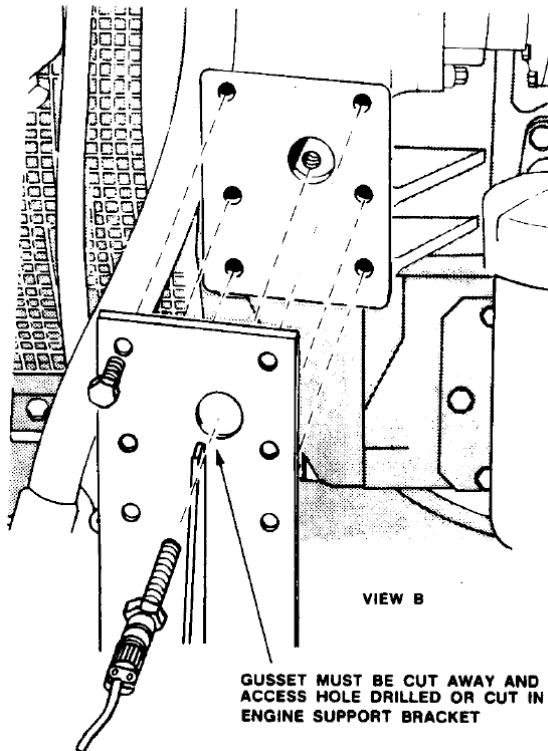
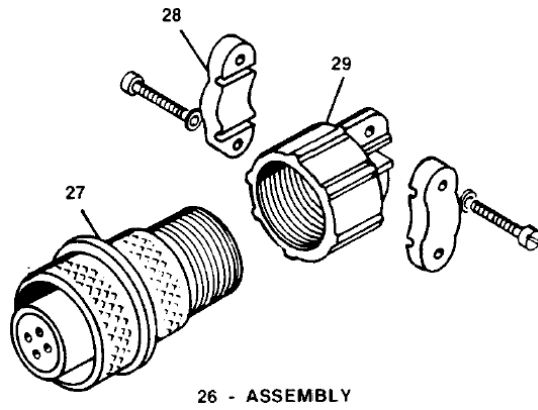
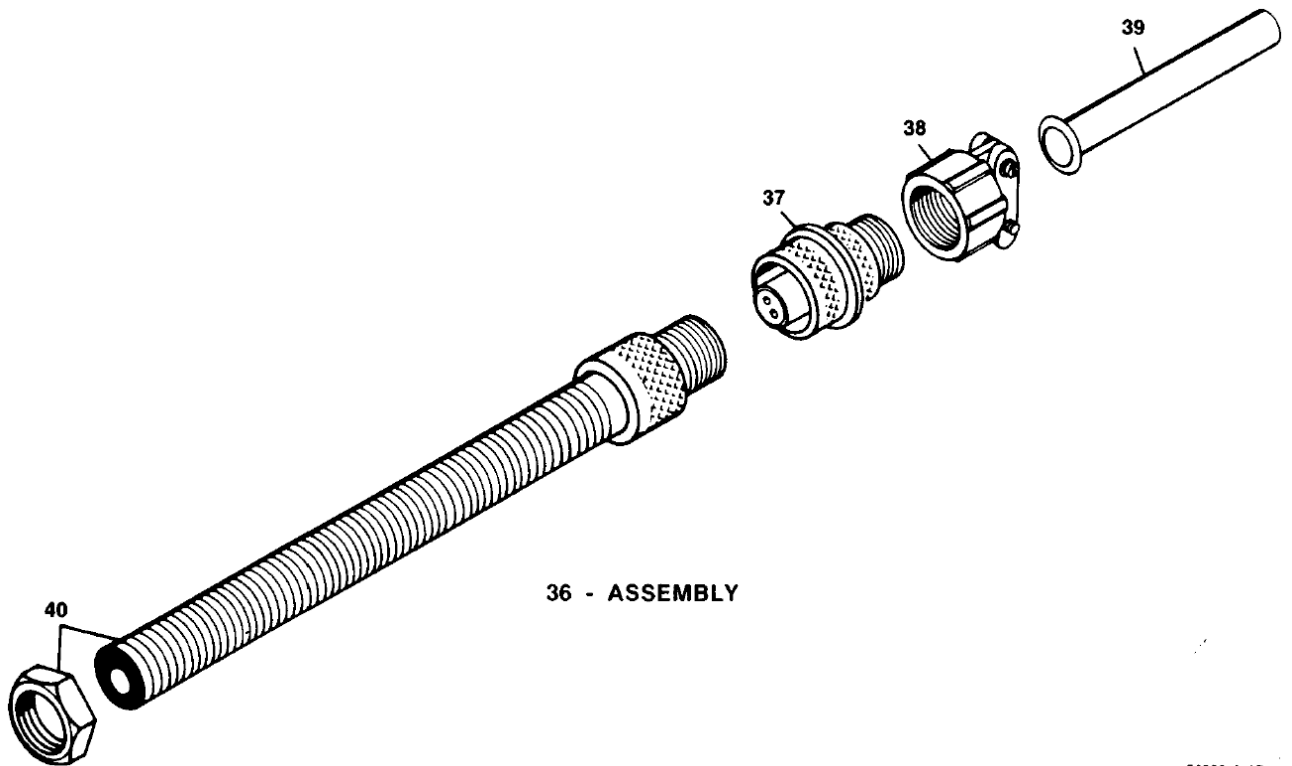

Figure 3. Magnetic Pickup Installation
Figure 4. EG-3P Connector Assembly
Figure 5. Magnetic Pickup Assembly
1. Install the magnetic pickup in the flat surface used for the engine support bracket on the right side of engine. Drill an access hole in the engine support bracket and flywheel housing for the magnetic pickup. See Figure 3, Views A and B for location and dimensions of magnetic pickup hole.
Figure 1, Views A and B shows the linkage arrangement and reference numbers. Figure 1, View C, shows the new control rod plate. Figure 2 shows the control rod plate in relation to the EG-3P actuator. Figure 3 shows the location of the magnetic pickup and dimensions for drill and tap. Figure 4 shows the connector assembly. Figure 5 shows the magnetic pickup assembly.